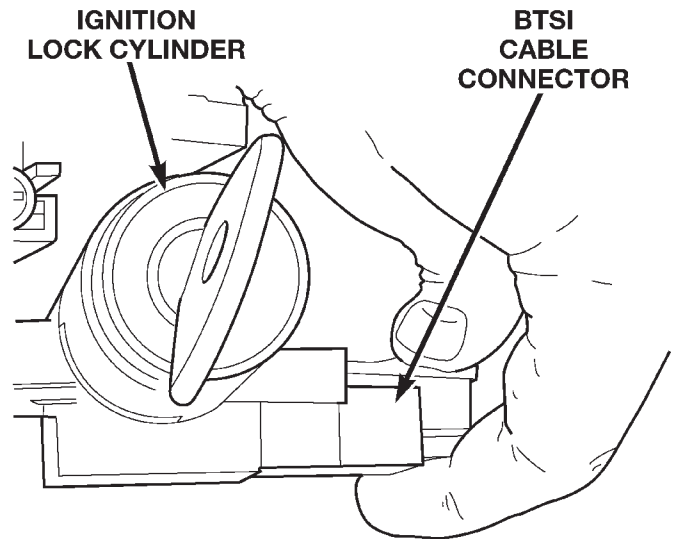

Fig. 3 BTSI Cable Assembly Connector
(9) Turn the ignition to the RUN position.
(10) Grasp the BTSI cable assembly clip and connector. Remove the connector from the interlock housing (Fig. 3).